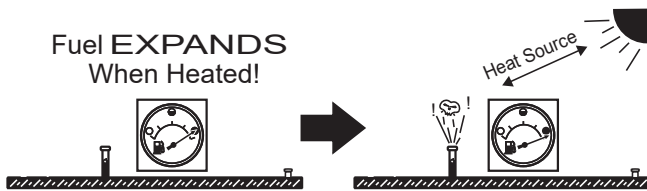

Figure 22. Fuel Expansion
**DO NOT OVERFILL** the fuel system. Leave room for fuel expansion. Fuel expands when heated (Figure 22).